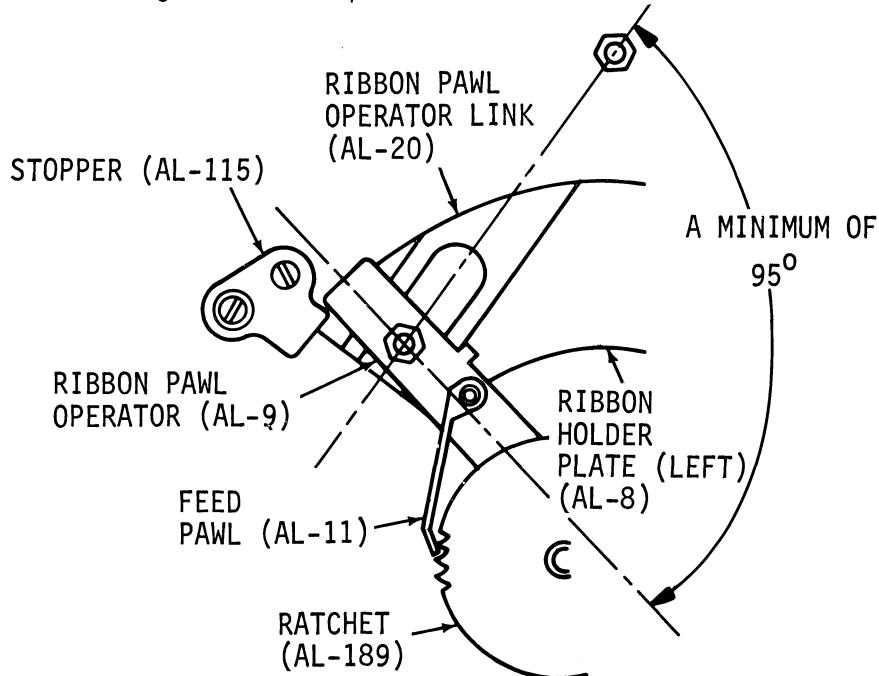

Figure 5-14. STOPPER ADJUSTMENT (AL-115), RIBBON MECHANISM (TOP VIEW)
- With carriage in extreme right, run-out position, maintain an angle of more than 95 degrees, minimum, (refer to Figure 5-14) between ribbon pawl operator link (L) (AL-20) and ribbon pawl operator (L) (AL-9).